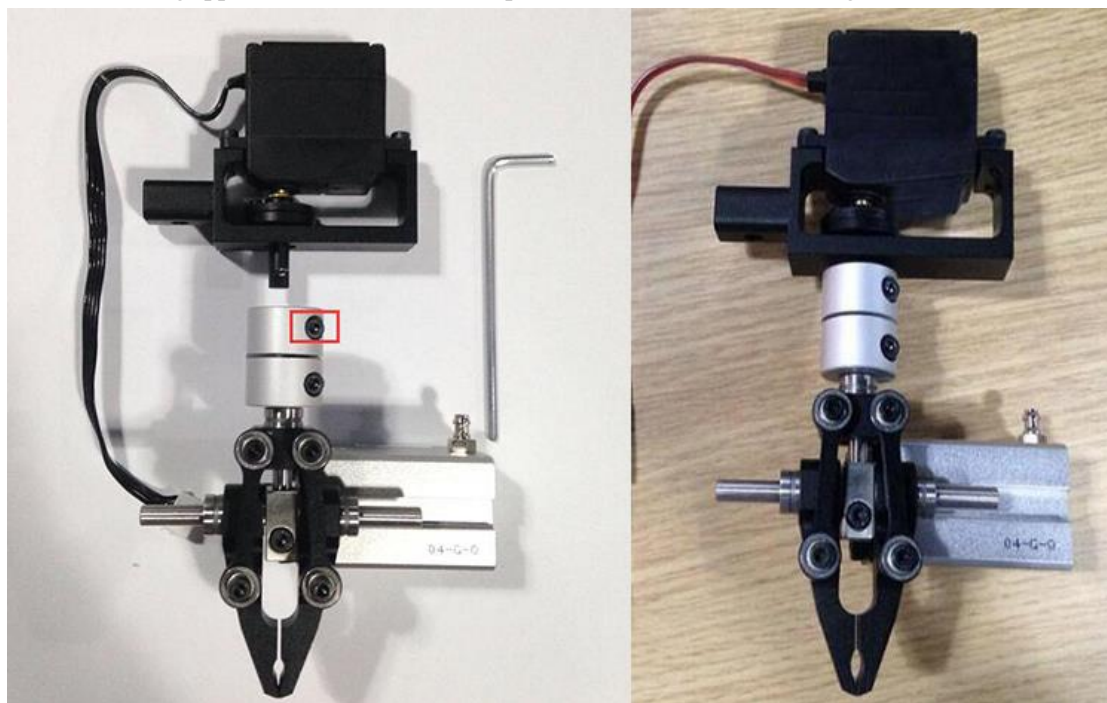

Figure 2.5 Gripper Installation
3. Install the gripper kit on Joint4 with coupler, that is done! Shown in Figure 2.5: